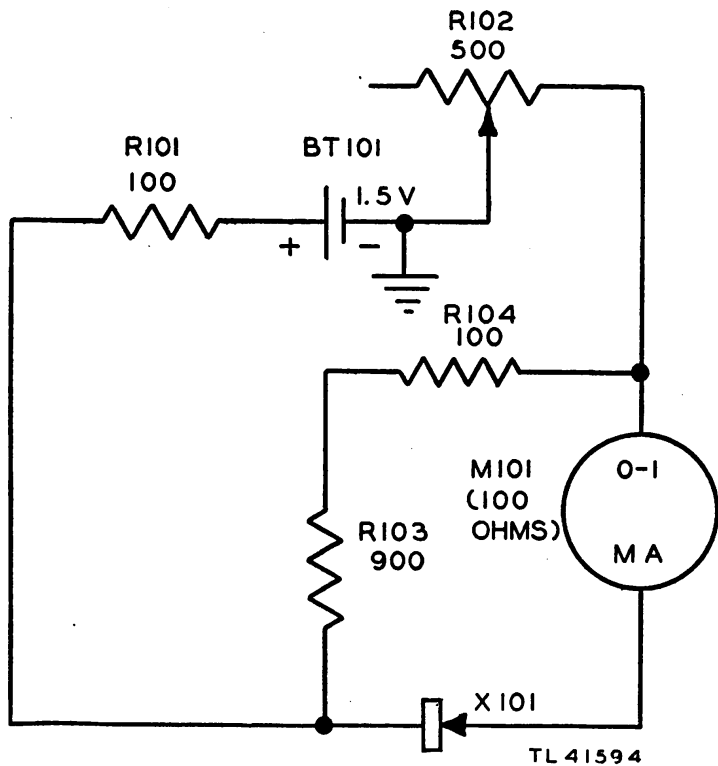

Figure 10. Circuit for back current measurements, simplified schematic diagram.
(6) **BACK CUR** Position (fig. 10). When the selector switch is rotated to this position, the circuit selected is the same as in subparagraph